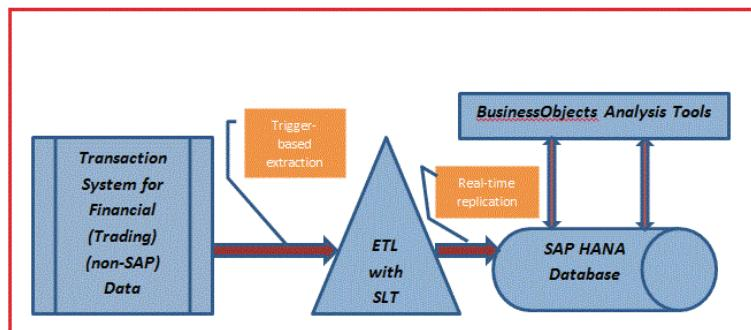

Figure 1: SAP HANA Use Case for a Financial Services Company
- Let's assume your organization is in the banking and/or financial services industry. You deal with extremely large data volumes on which you need to spot past and current trends and be able to make future projections. Today, you may not be satisfied with the pace at which this is happening. This is a good use case for HANA. A simple proof-of-concept could entail replicating your financial data using trigger-based SLT extraction to an SAP HANA database and doing your querying and analysis off the HANA database. Even better, as Phase II of this project, you may consider pushing your complex transformations/logic, etc., to the SAP HANA layer thereby letting HANA do the heavy lifting instead of your current software or your analysts. Figure 1 illustrates this use case at a high level.